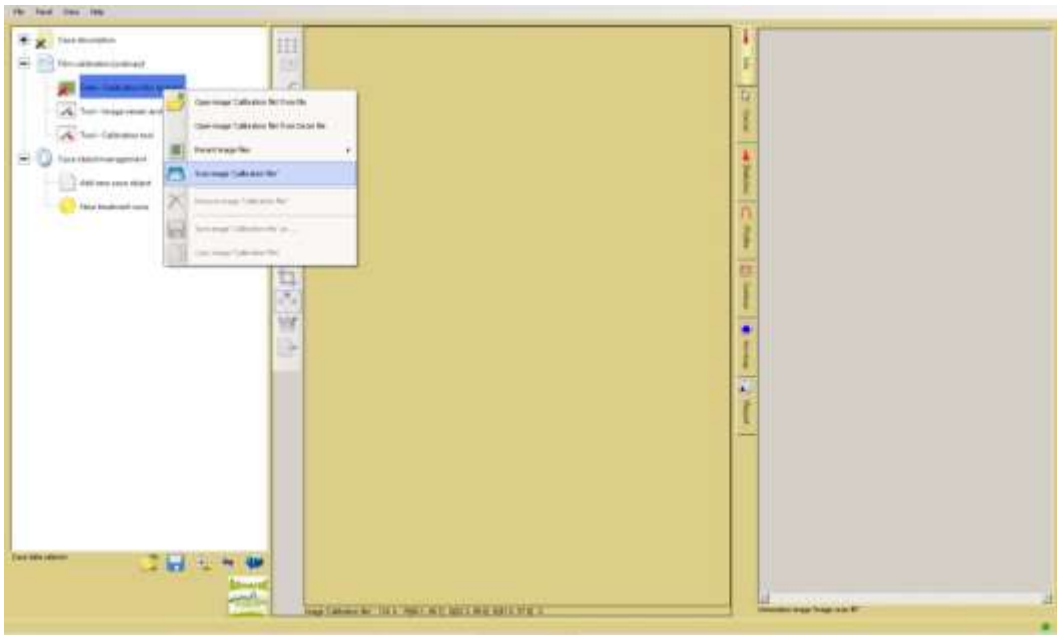

Figure 2
- Expand the Film Calibration case object, right click on “Data Calibration Film (empty)” and select and click “Scan Image Calibration Film” (Figure 2). The Epson\* Driver Window will appear. Choose the settings shown in Figure 3C. If the color correction icons are active (red arrow in Figure 3A), they must be de-activated. Open the Configuration window (Figure 3B) and check “No Color Correction”. The icons should appear gray (green arrow below, right). Note: Resolution of 72 dpi is suggested.